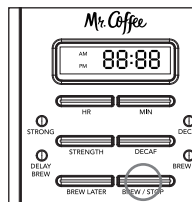

Figure 9
- To activate DELAY BREW and program your coffeemaker to brew coffee at a later time, press the SELECT button twice (Figure 9). The amber DELAY BREW light will turn on. The coffeemaker is now set to automatically brew coffee at the pre-set later time. At this time the brew strength light will turn on. You can select the strength that you desire by pressing the BREW STRONG button. (Amber for STRONG, green for REGULAR)
**To cancel DELAY BREW:** Press the SELECT button until all lights turn off (Figure 9).